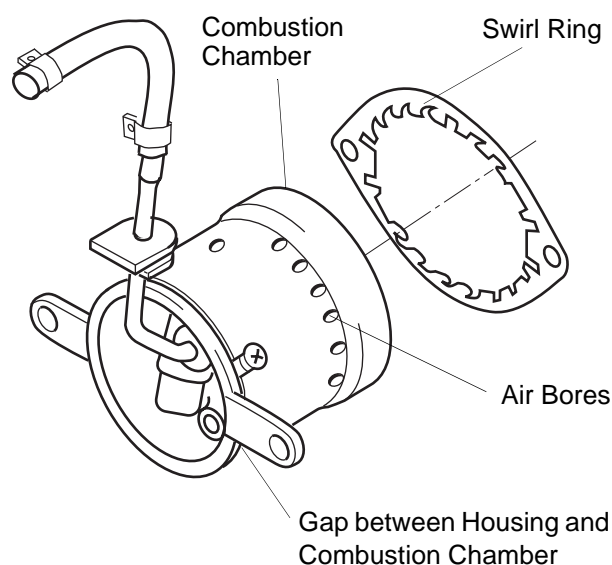

Fig. 505 Visual Inspection, Burner Assembly
- The combustion chamber (Fig. 505) should not be damaged (e.g. dented). A combustion chamber with dents may cause insufficient combustion or coking of the heater.
- The air bores (Fig. 505) in the combustion chamber must not be coked. Coked air bores may cause a no-start or insufficient combustion.
- The screwed connection of the housing and combustion chamber must be secure (Fig. 505).
- Housing and combustion chamber (Fig. 505) must be connected securely without any play (check by slight movement of fuel pipe).
- The gap between housing edge and combustion chamber upper edge (Fig. 505) must not be equal around the entire circumference.